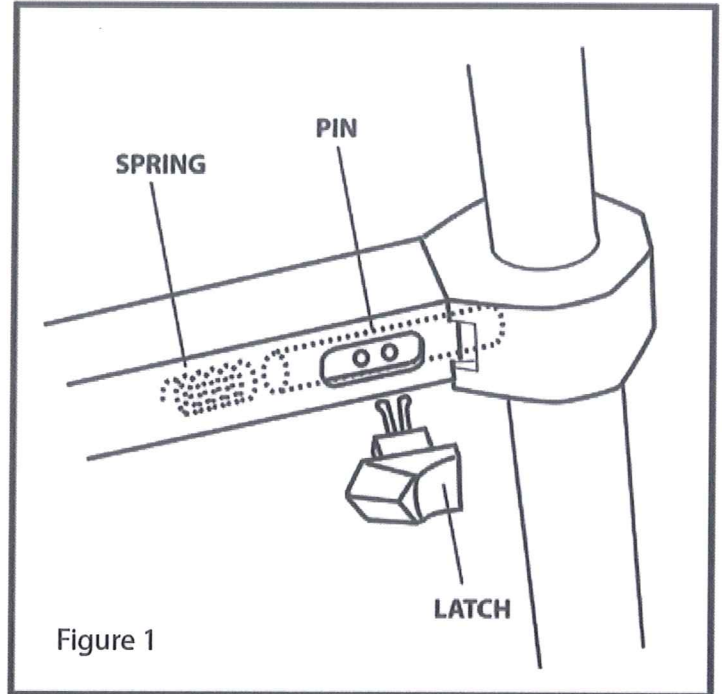

Figure 1
3. Align the barbed prongs with the 2 holes in the "locking pin." (Figure 1)